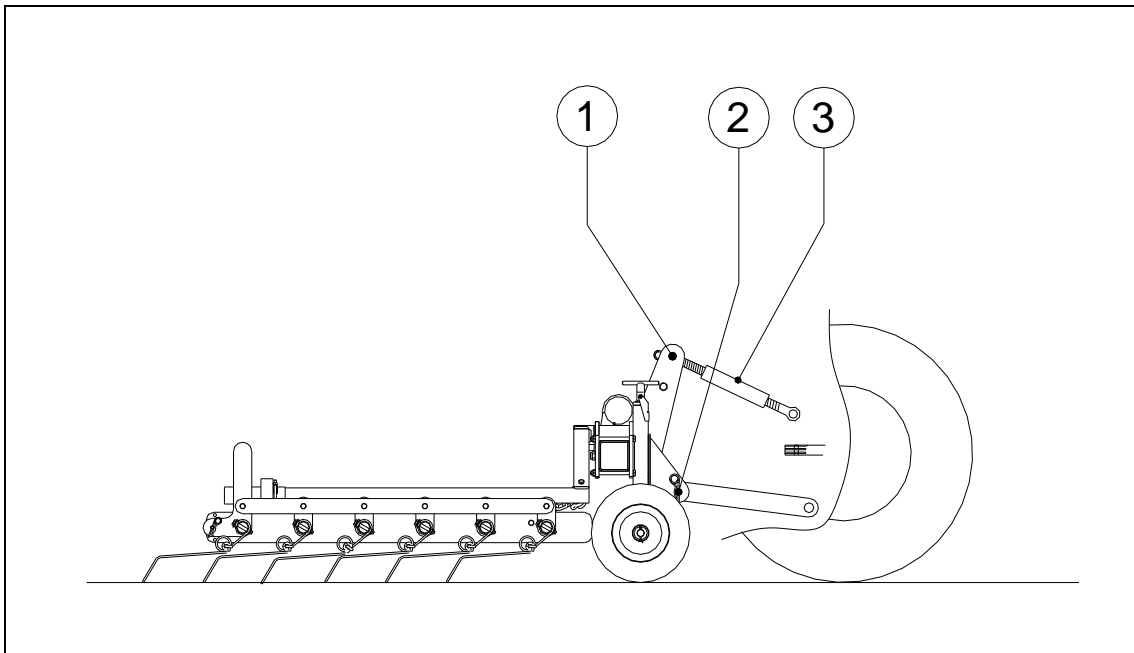

Figure 8
The procedure is as follows (see Figure 8):
3. Turn the top rod (3) inwards so that the machine stands perpendicular to the subsoil (see Figure 8).